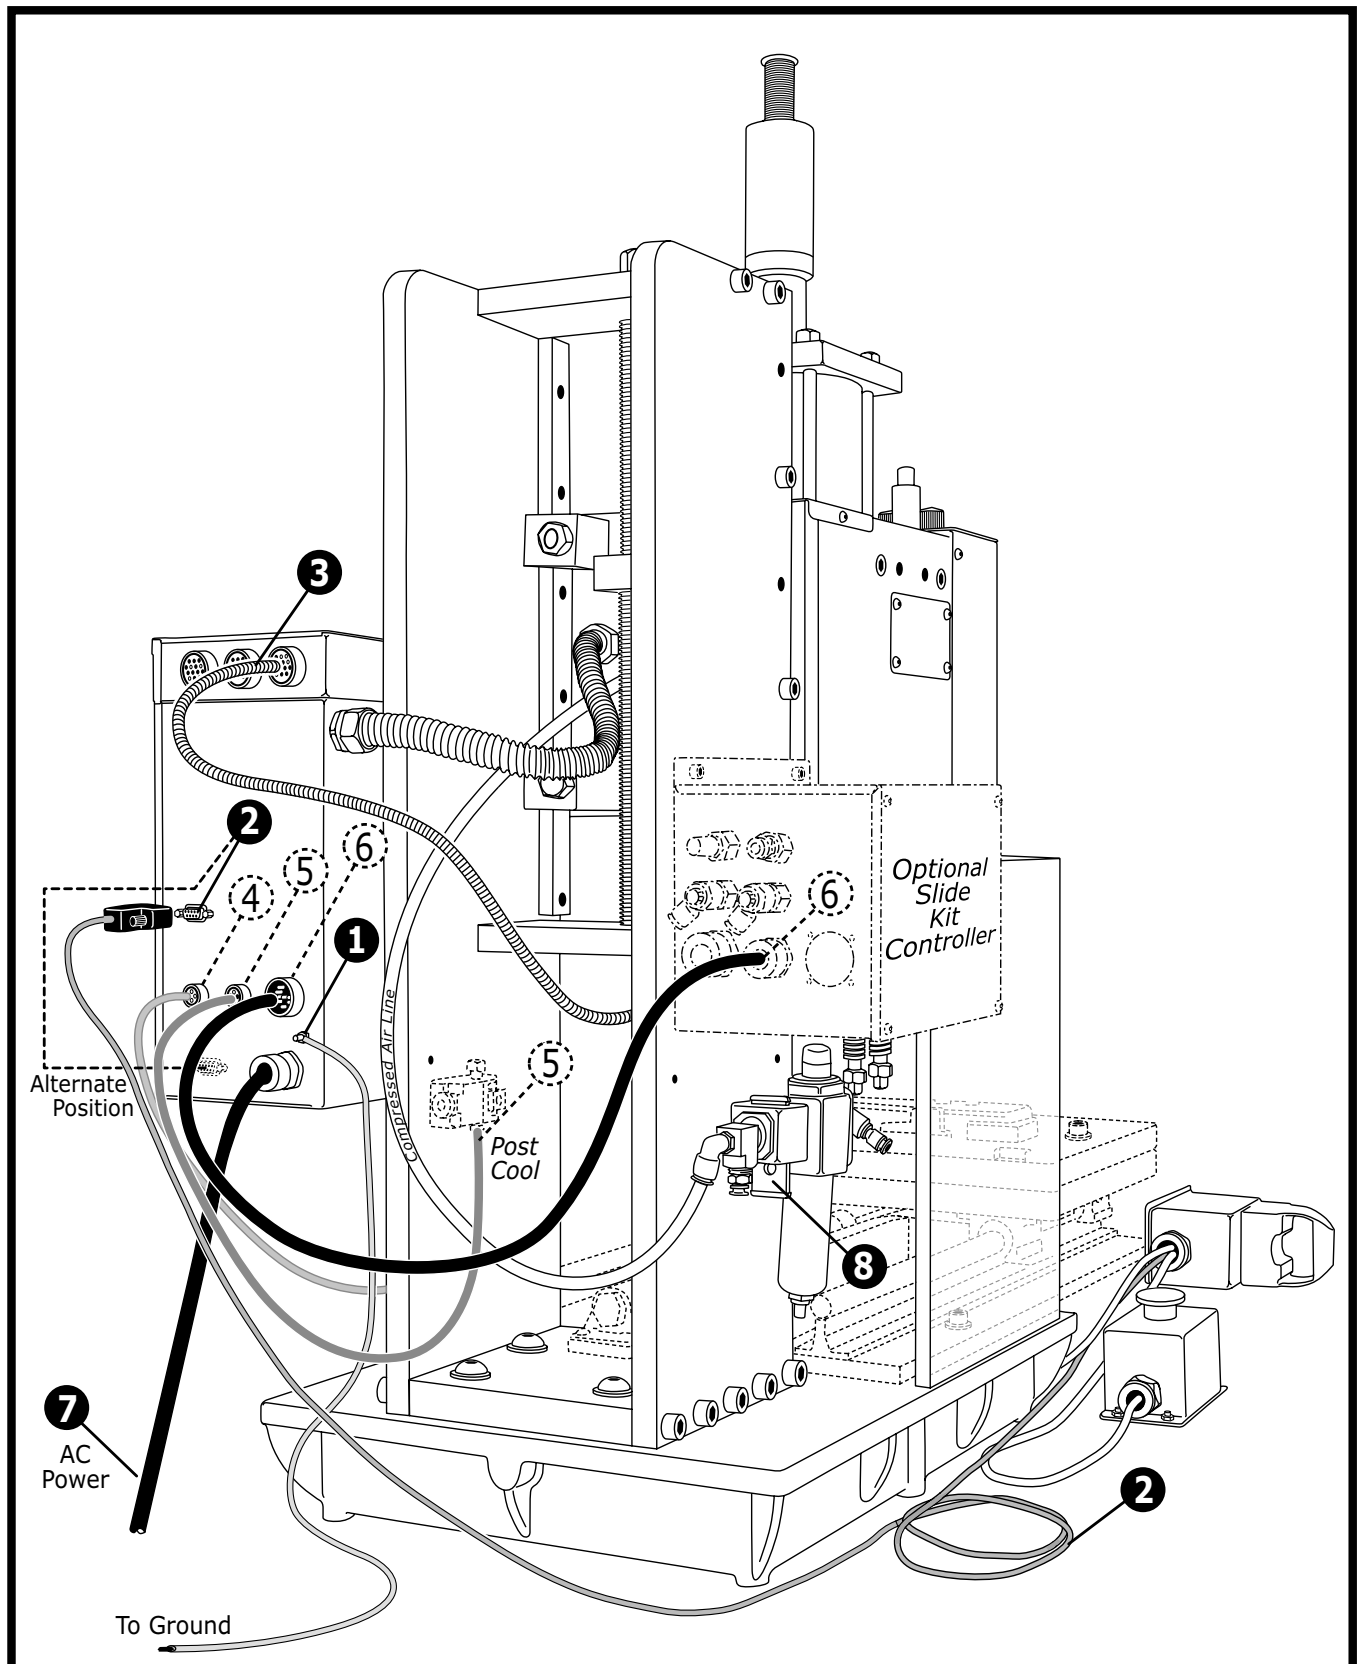
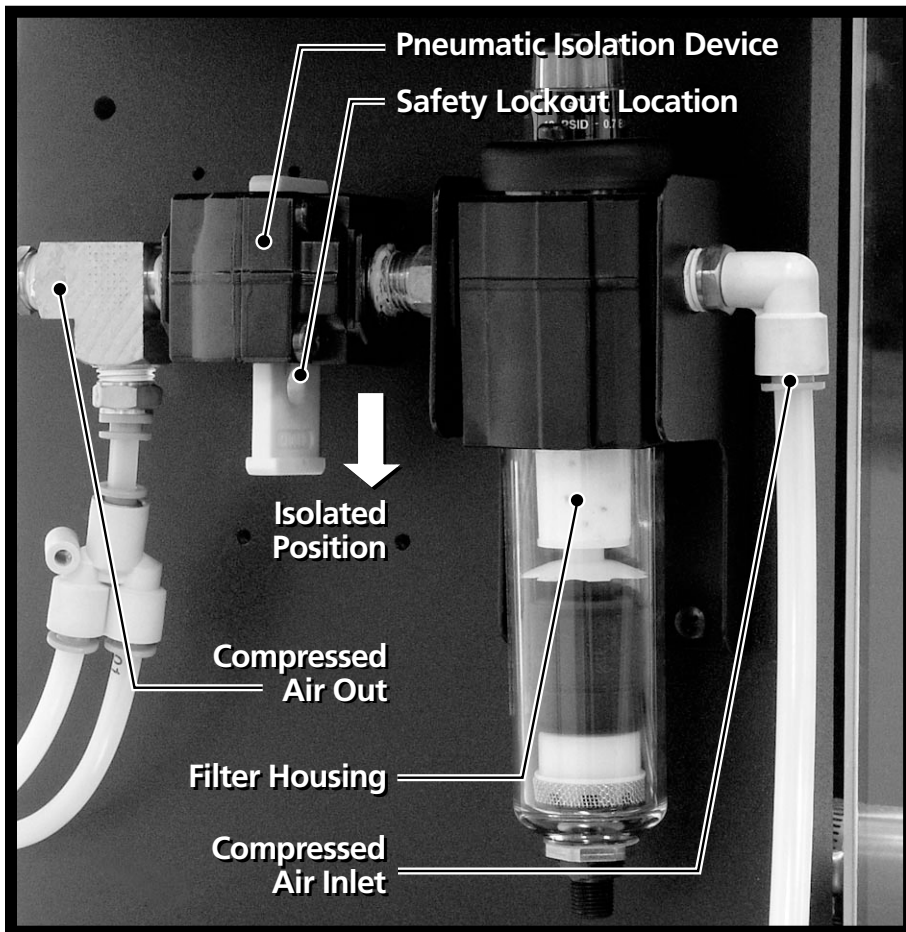

Figure 3-4 Thermal Press Cable Connections
Figure 3-5 Compressed Air Fittings and Pneumatic Isolation Device in Lockout Position
The Thermal Press requires a clean, dry supply of compressed air at a nominal pressure of 100 psi (6.9 bar). The air supply should be capable of delivering at least 80 psi (5.5 bar) and not greater than 110 psi (7.6 bar). The air is attached to the fitting on the filter on the side of the press using a standard $\frac{5}{16}$ " NPT fitting. This location is shown in Figure 3-5.
- Step 8. Make sure the pneumatic safety device is in the locked out position (see Figure 3-5 and ⑧ in Figure 3-4), and will not allow compressed air into the solenoid valves. Securely attach the compressed air line to the air filter using a standard $\frac{5}{16}$ inch NPT fitting.